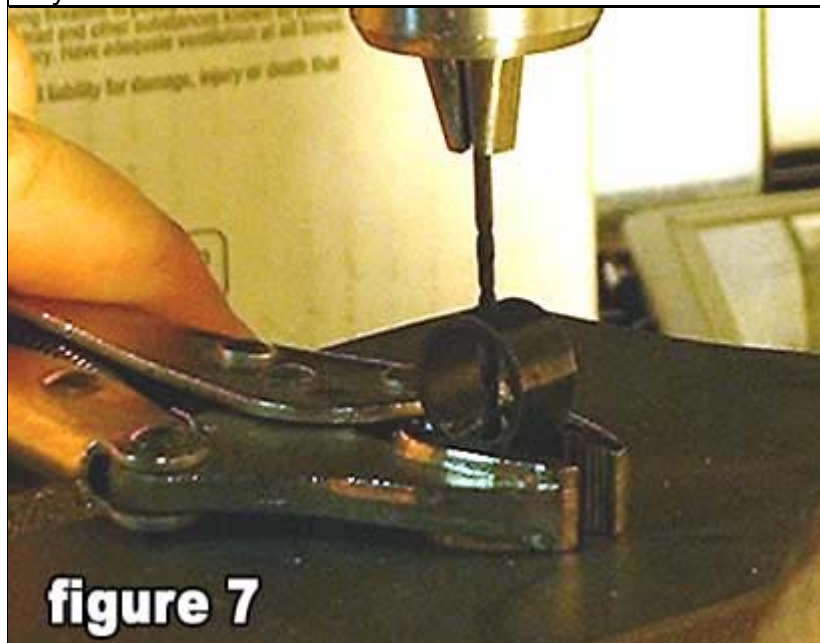

figure 7
3) To drill the first hole (**figure 7**): working from the top of the hood and using a 1/32 bit (approximate, but not much larger; you may want to slightly enlarge the hole later), drill all the way through the base of the sight in the position of the old post. This operation is most easily accomplished with a drill press, but it may be done with an electric hand drill if you are careful to drill as straight as possible. Remember to use a little light oil or cutting oil as you drill.